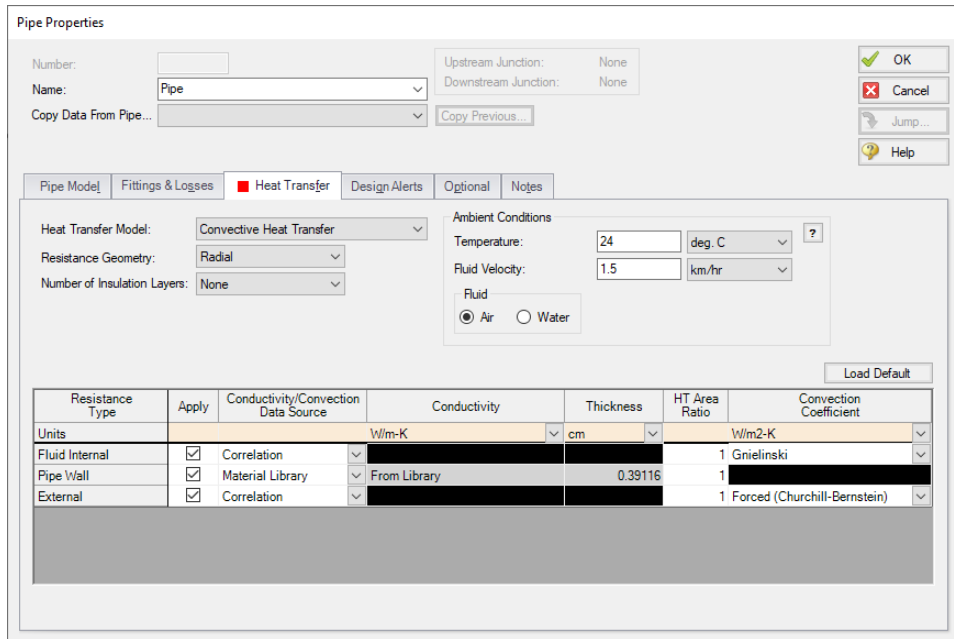

Figure 6: Pipe Heat Transfer Data for Hot Case Scenario
- a. The heat transfer properties of the uninsulated pipes should be set to the values as shown in Figure 6 (the wall thickness for the Pipe Wall will vary, depending on the diameter of the pipe). Change the Heat Transfer Model to Convective Heat Transfer. Next, enter a Temperature of 24 deg. C and enter a Fluid Velocity of 1.5 km/hr. Doing so will minimize the heat transfer occurring in the pipe, and result in the highest temperature at the tools. Use the Global Pipe Edit tool to define the heat transfer information for all pipes at once.